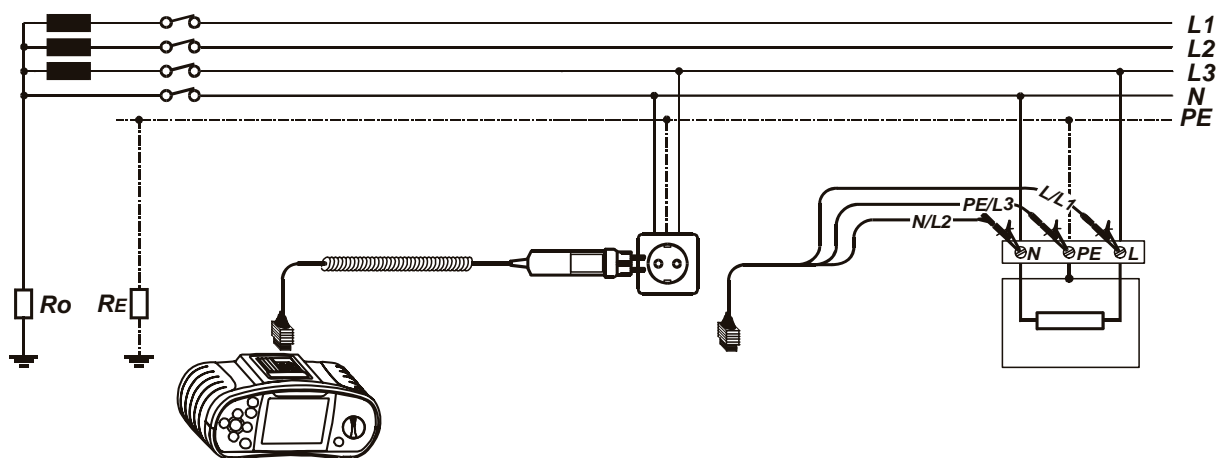

Figure 5.26: Connection of plug cable and universal test cable
Step 3 Connect the test leads to the instrument and follow the connection diagram shown in the figure 5.26 to perform fault loop impedance measurement. Use the **Help** function if necessary.